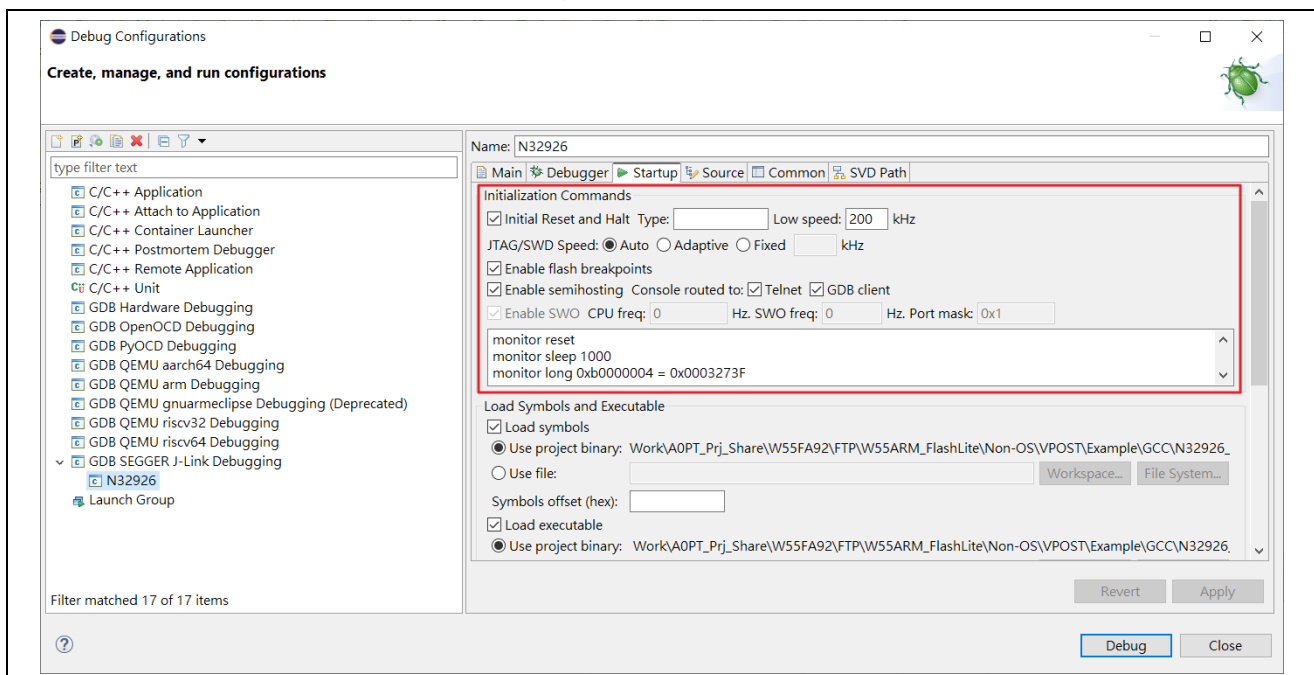

Figure 1-9 J-Link Startup Setting
9. Go to **Startup** tab, as shown in Figure 1-9.